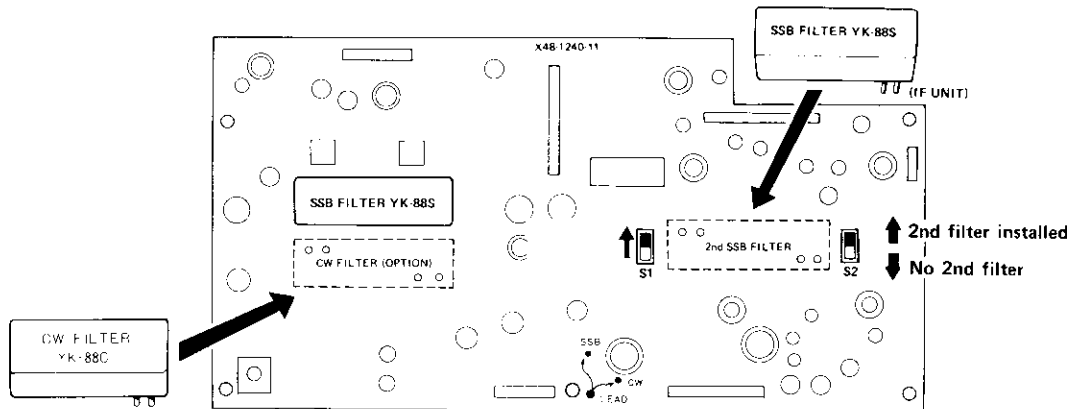

Fig. 5-6 Installing the Optional CW and/or SSB Filters
**INSTALLING THE CW FILTER YK-88C (Fig. 5-6)**
5. Change the position of the preset switches as shown in Fig. 5-6.